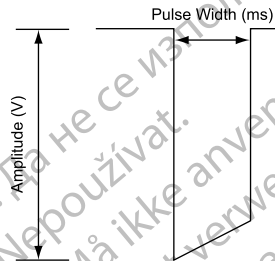

Figure 2–6. Pulse waveform
- The energy delivered to the heart is directly proportional to the Pulse Width; doubling the Pulse Width doubles the energy delivered. Therefore, programming a shorter Pulse Width while maintaining an adequate safety margin may increase battery longevity. To prevent loss of capture, exercise caution when you are programming permanent Pulse Width values of less than 0.3 ms (Figure 2–6 Pulse waveform on page 2-15).
The pulse amplitude, or voltage of the output pulse, is measured at the leading edge of the output pulse (Figure 2–6 Pulse waveform on page 2-15).